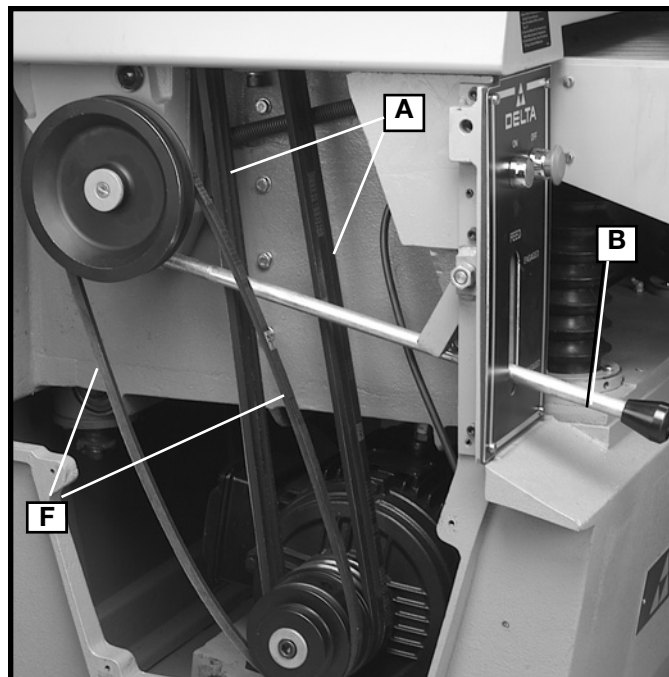
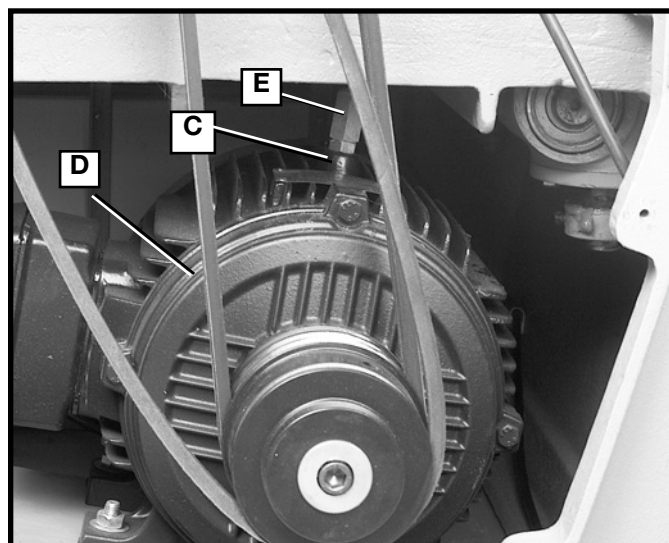

Fig. 16
Fig. 17
DRIVE BELT TENSION: Proper drive belt tension is obtained when there is zero deflection, using light finger pressure, on drive belts (A) Fig. 16, midway between pulleys. If an adjustment is necessary, push down on lever (B) Fig. 16, to disengage feed roller. Loosen jam nut (C) Fig. 17, located on top of motor (D) and turn adjustment stud (E) right or left as needed until proper drive belt tension is obtained. Tighten jam nut (C) after adjustment is made.
FEED ROLL BELT TENSION: Proper tension on feed roll belt (F) Fig. 16, is obtained when there is approximately 1" deflection, using light finger pressure on feed roll belt (F), midway between pulleys.